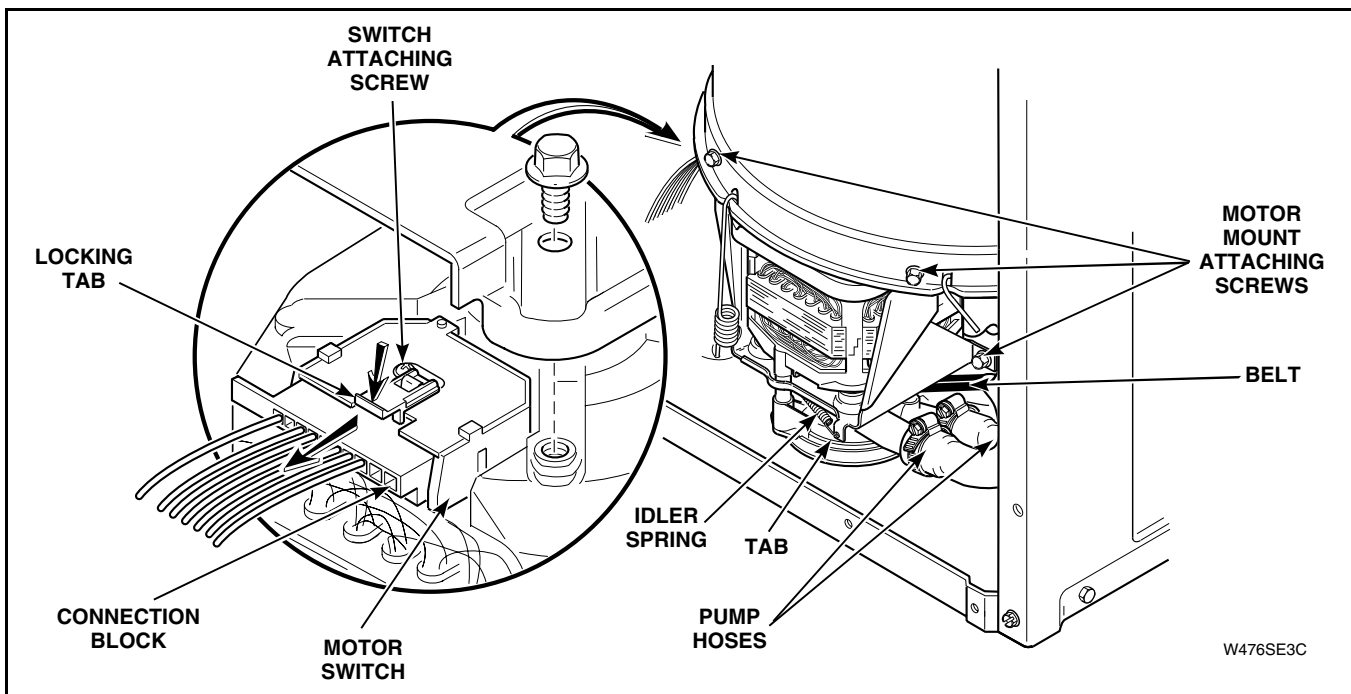

Figure 40
- c. Loosen hose clamps and remove hoses from pump assembly. Refer to *Figure 40*.
- d. Unhook idler spring from tab on front of motor mounting bracket. Refer to *Figure 40*.
- e. Reach in and around right side of motor and run belt off right side of large drive pulley. Refer to *Figure 40*.
- f. Disconnect wire harness from motor switch by pressing down on locking tab on top of connection block and at the same time pull connection block away from motor switch. Refer to *Figure 40*.
- g. Remove four screws holding motor and mounting bracket to lower outer tub flange and to weldment assembly. Refer to *Figure 40*. Then lift complete assembly out of washer.
- d. Unhook idler spring from idler lever. Refer to *Figure 40*.
- g. Remove four screws holding motor mounting bracket to lower flange of outer tub and to weldment assembly. Refer to *Figure 40*. Then remove complete assembly out of washer.